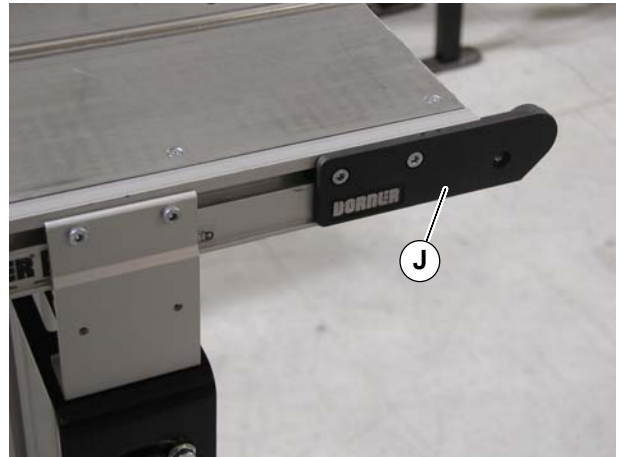

Figure 7
4. Install a new head plate (J of Figure 7) on one side of the conveyor.